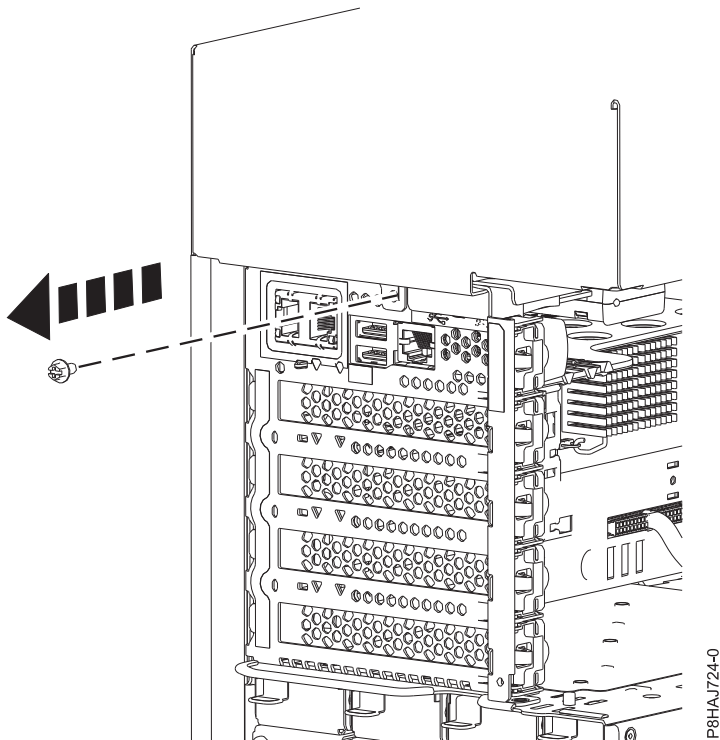

Figure 27. Removing the screw from the 8286-41A side cover
4. Remove the rear screw from the side cover by using a Phillips screwdriver as shown in Figure 27.